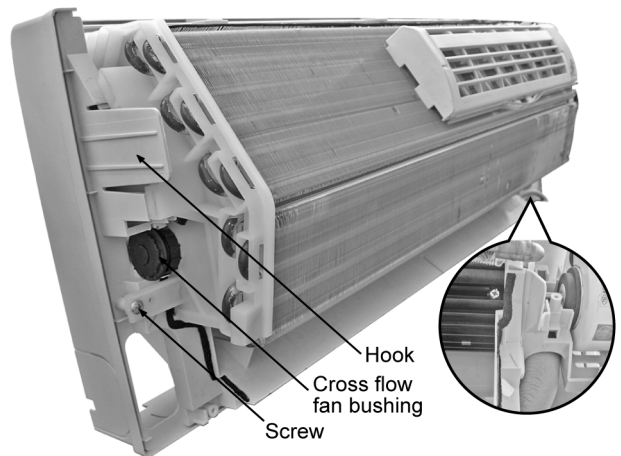

Fig. 7
- Remove the cross flow fan bushing from the chassis. (Fig. 7)
- Pull the hook at the left side of evaporator. (Fig. 7)